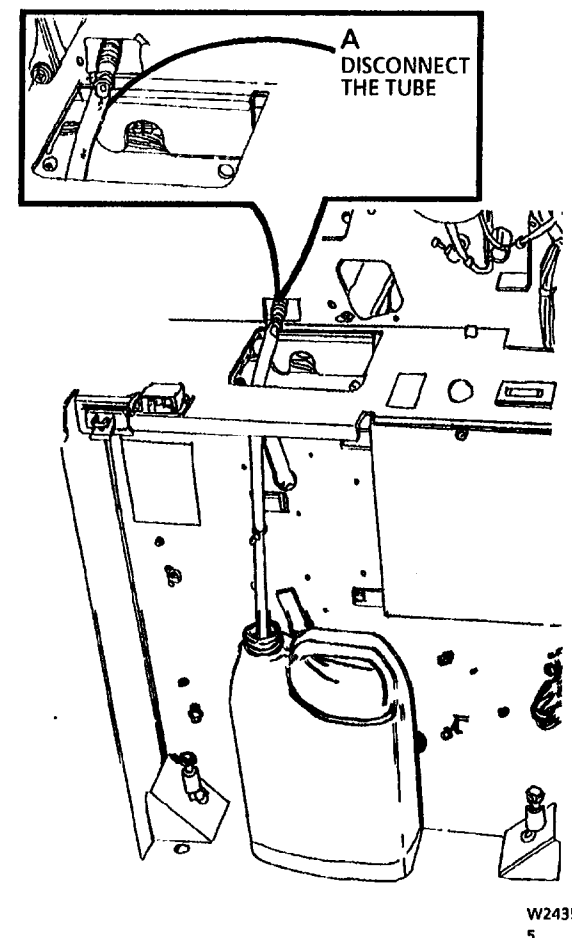

Figure 2. Disconnecting the Tube
3. (Figure 2): Disconnect the Moisture Collection Tube.
4. (Figure 2): Remove the Media Transport Assembly.